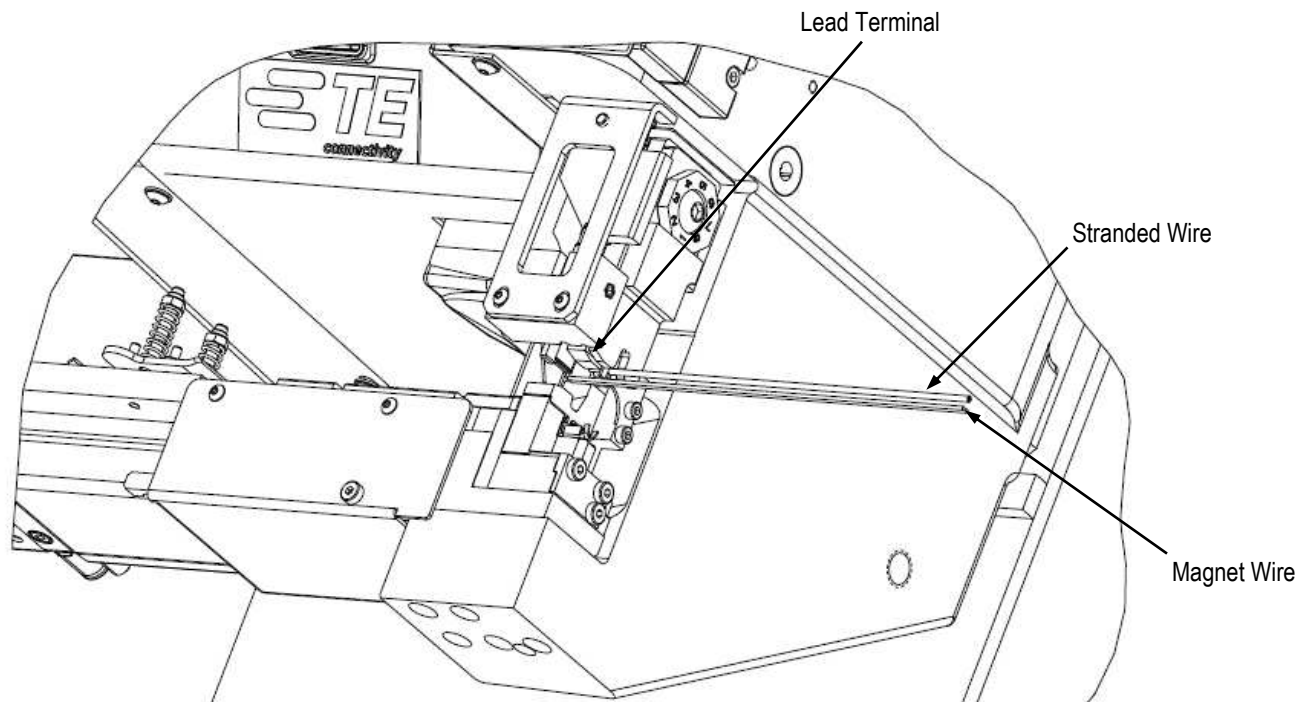

Figure 15
3. Feed the terminal strip through until the first terminal has passed the tip of feed finger and is over the lower tooling (anvil). Then, pull back slightly on the terminal strip to ensure that the feed finger is indexed against the first terminal. Refer to Figure 15.
- Place wires in the "target area," aligned with the terminal. When using stranded and magnet wire, position it as shown in Figure 14 (splice terminator) or Figure 15 (direct connect terminator). When splicing two or three magnet wires, they may be in any position with respect to each other. The crimp tooling will automatically position them side-by-side in the bottom of the terminal as crimping occurs.